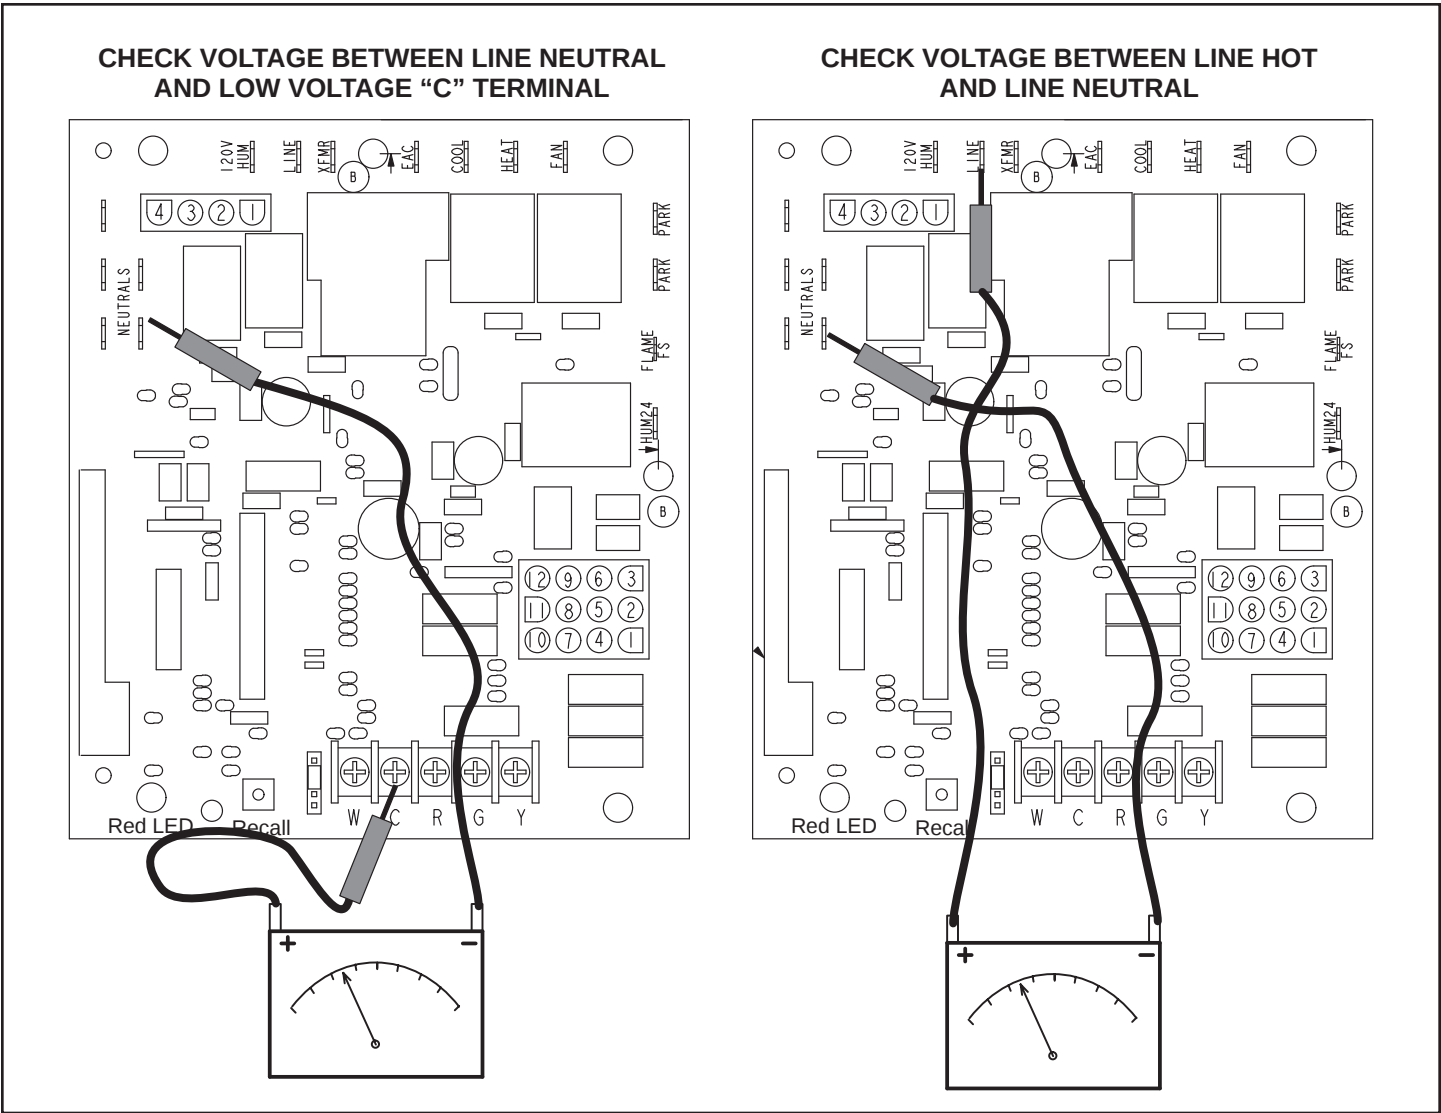

Figure 52.
1. Measure the AC voltage between Line Neutral (spade terminals) and “C” terminal (low voltage terminal block) on the integrated control. See Figure 52. A wide variation in the voltage between Line Neutral and “C”
2. In addition, measure the AC voltage from Line Hot to Line Neutral (spade terminals) on the integrated control. See Figure 52. This voltage should be in the range of 97 to 132 VAC
Blower speed tap changes are made on the integrated control. See Figure 3 or Figure 52. The heating tap is connected to the "HEAT" terminal and the cooling tap is connected to the "COOL" terminal. On all units the continuous blower tap is connected to the "FAN" terminal. Unused taps must be secured on two dummy terminals labeled "PARK". To change out existing speed tap, turn off power and switch out speed tap with tap connected to "PARK". See blower speed tap table on unit diagram for motor tap colors for each speed.